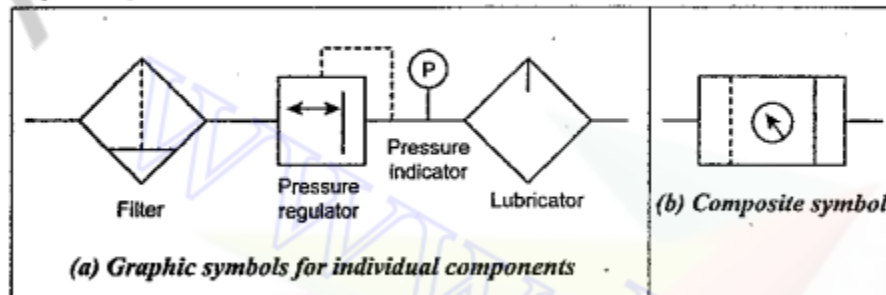

Fig. 11.12. FRL unit graphic symbol
- ✓ **Composite symbol** : Fig.11.12 illustrates how individual component symbols form a composite symbol of a FRL unit.